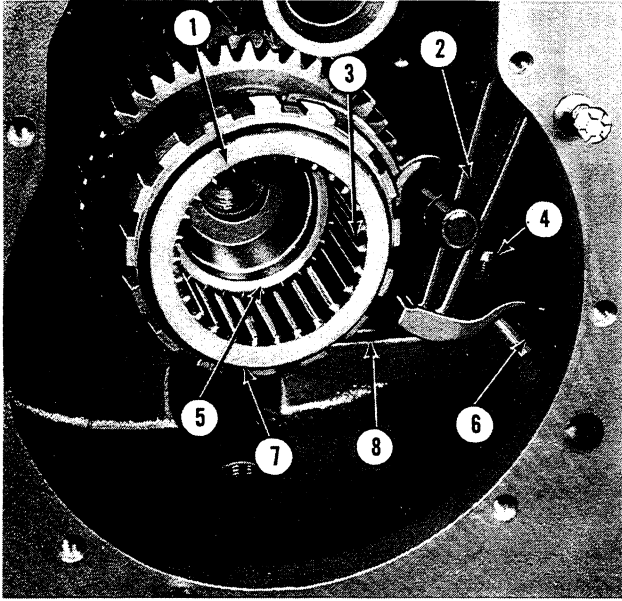

Figure 20
9. Remove the high/low gearshift sliding coupling (1), Figure 20, from the shift fork fingers (8). Loosen the high/low shift fork lock nut and screw (4). Remove the high/low detent seat (10), Figure 14, and remove the spring and ball. Use a magnet if necessary to remove the ball.
9. Inspect the high/low sliding coupling (1), Figure 20, for excessive wear or damage to the dog teeth (5), interior splines (3) and parking brake teeth (7). Replace if necessary.
10. Inspect the high/low shift fork (8), Figure 20, for distortion, cracks or excessive wear. If necessary, replace the fork.
3. Place the high/low gearshift sliding coupling (1), Figure 20, in the fingers of the shift fork (8) with the parking brake teeth (7) to the rear. Move the coupling to mesh with the dog teeth on the countershaft. If the fork is held back by the parking brake pawl (2), move the pawl to free the fork.
1. Place the high/low shift rail (6), Figure 20, partially in the case, detent end in first. Place the high/low gearshift fork (8) on the parking brake
5. Place the output shaft in the case, putting the smaller cone and roller bearing in first so that the splines on the shaft enter the sliding coupling splines (3), Figure 20.